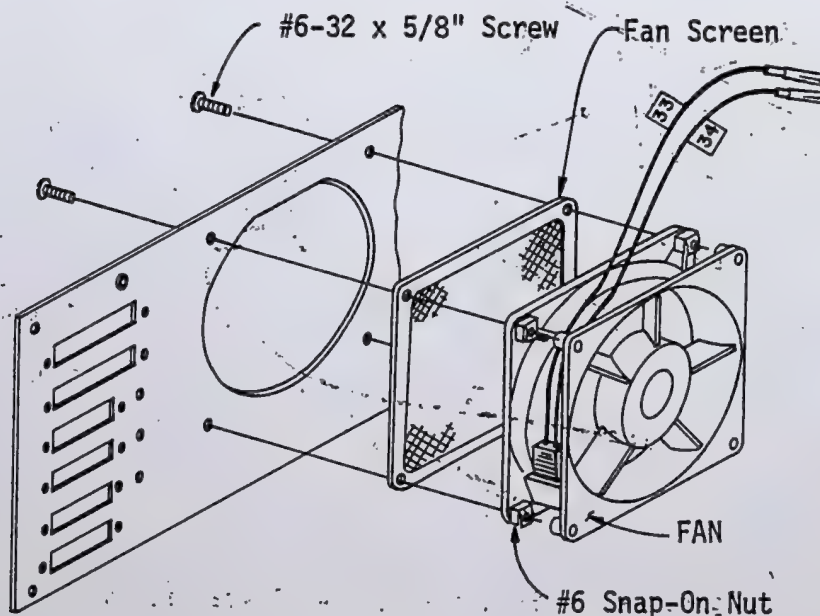

Figure 5-52. Fan and Fan Screen Mounting
3. Refer to Figure 5-52. Mount the fan screen and fan to the back panel
3. Replace Figure 5-52 with the figure below:
5-61. FAN MOUNTING (Figure 5-52)
1. Before mounting the fan to the back panel, install the female plug onto the terminals as shown in Figure 5-52. If your kit does not supply a plug, solder two 20-inch lengths of 22-18 gauge wire to the terminals. ✓